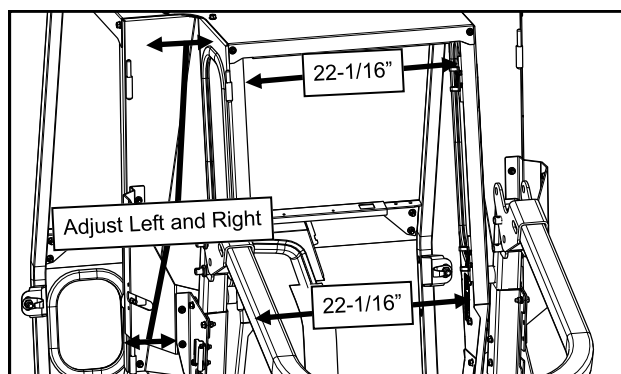

Fig. 15.2 (Measure Rear Flanges Left to Right)
- 15.2** Per fig. 15.2, measure the distance between the inside of the rear flanges of the rear legs. Adjust the rear legs to get as close to 22-1/16" as possible at *both* the top and bottom of the flanges. Tighten the hardware between the rear light mounts and the ROPS brackets that were installed in step 6.3.